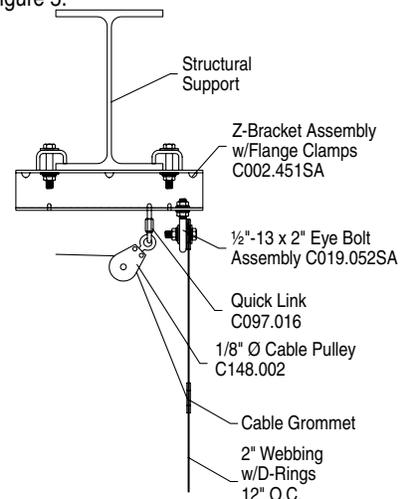
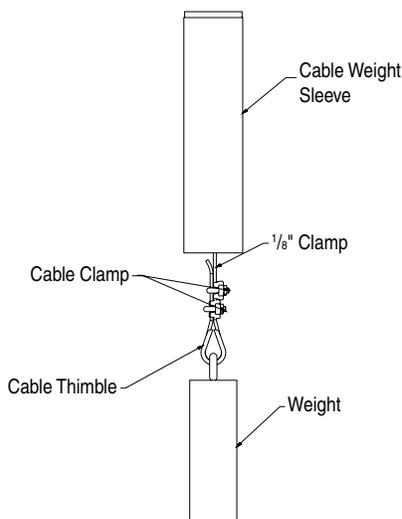

Figure 5
Figure 7
- ⑨ Operate the winch to determine that the drive pipe is rolling level. Make adjustments accordingly.
- ⑩ Install cable pulley support angles on non-winch side of cage. They should be located as shown on project specific drawings and assembled as shown in figure 5.
- ⑮ Route loose cable ends through the grommet located approximately 15" from the top of belt (grommet about 12" above last D-ring) and then through each D-ring on each belt. Use care not to twist the belt.
- ⑯ Temporarily attach a cable weight to each of the cable using two cable clamps and a thimble. At this point weight should just rest on the floor with the cable just barely taut. **DO NOT CUT THE CABLES.**
- ⑰ Once all of the weights are secured, lift the frame up to a level where it is within arm's reach.
- ⑱ Attach net to frame using 8" hook & loop attachment strips (25 yard roll provided). Net will be free hanging at this point.
- ⑲ Once attached, raise the practice cage and frame up to its highest point and attach the top of the webbing support straps using bolts through the grommet and eye-bolt (see Fig. 5, page 1).
- ⑳ Lower practice cage until the frame is fully supported by the webbing support straps and the cable weights are approximately 3" off the finished playing surface. This should result in approximately 12" of netting material lying on the floor which is necessary to keep balls in the cage during use. If the amount of netting that is lying on the floor is not 12", it will be necessary to adjust the webbing support strap lengths to achieve the desired result.
- ㉑ Remove each cable weight, one at a time, while keeping some tension on the cable. Slide the cable weight sleeve on to the cable and reattach weight so that it rests approximately 3" off the floor. Trim and tape cable ends as necessary, then slide sleeve over clamps and loose cable end. Weight sleeve insures that the clamps, cable end, etc do not get caught and damage the netting material (see Fig. 7).